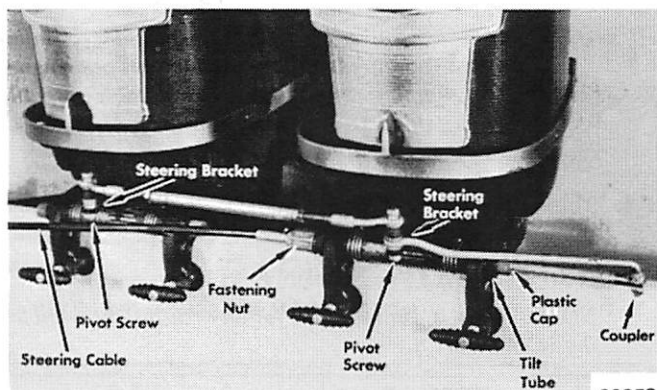

Figure 1. Attachment Kit Installed, Merc 1100-1000-950-900 and 4-Cyl. 650 (1966 and Newer) Models
1. Ride-Guide cable may be routed on either the right or left side of boat. It is, however, necessary to install cable on the far engine; i.e., cable is installed on left engine if cable is routed on right side of boat (Figure 1), and cable is installed on right engine if cable is routed on left side of boat.
2. Lubricate inside of engine tilt tube with New Multipurpose Lubricant (C-92-49588). (Figure 1)
3. Insert cable end thru tilt tube and secure with large hand-type fastening nut. (Figure 1)
1. Attach kit to engines as shown in Figure 1.